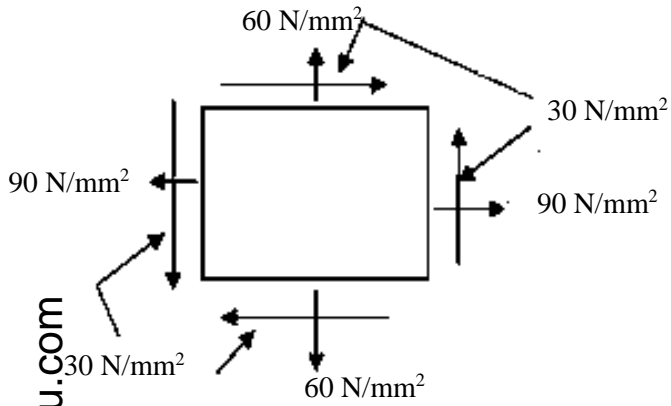

Figure 3
Q.3	<ul style="list-style-type: none"> (a) At a point in a strained material, the state of stress is as shown in figure 3. Determine (i) principal stresses 03 (b) For problem above in Q.3 (a), figure 3 calculate (i) location of principal planes and (ii) maximum shear stress and its location. 04